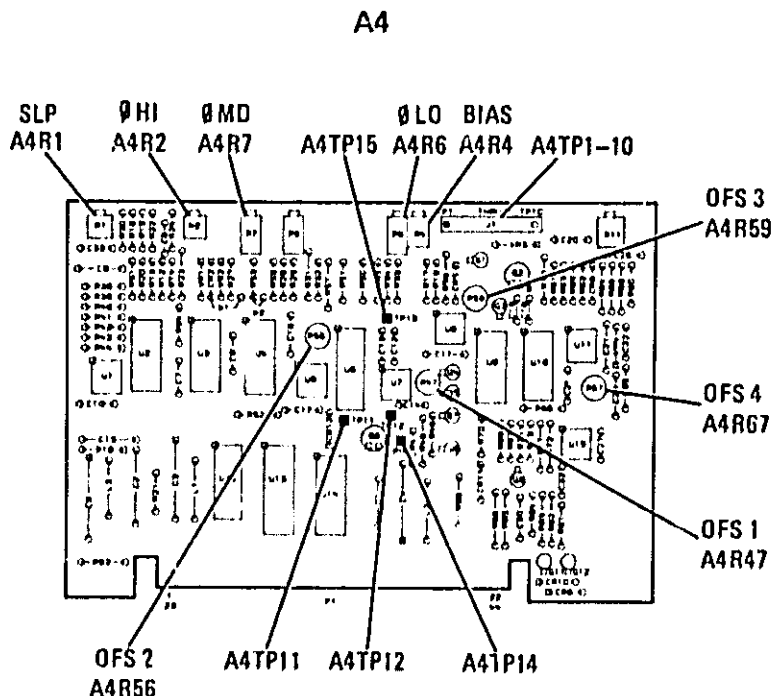

Figure 5-18. ALC Adjustments Location
2. Connect the digital voltmeter to A4TP12 with floating ground on A4TP14. Refer to Figure 5-18. Adjust A4R47 OFS 1 (offset 1) for $0.000V \pm 0.001V$.